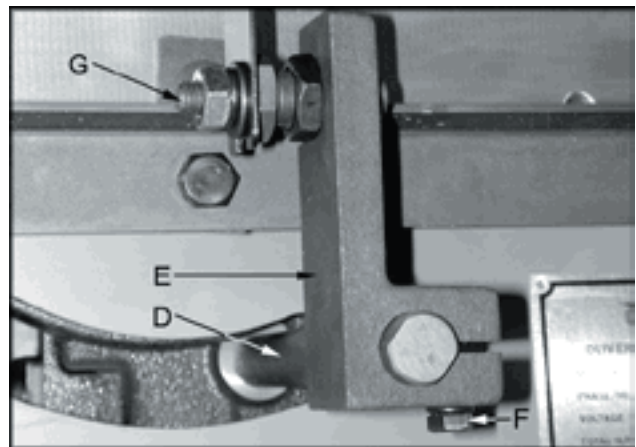

Figure 15
3. Thread blade guard shaft (D, Figure 15) into rear trunnion through opening at rear of saw. Use the flat detent at the end of shaft to tighten blade guard shaft.
4. Place bracket assembly (E, Figure 15) on to the shaft and thread a M8x35 hex head bolt and a M8 lock washer (F, Figure 15) into the bracket.
5. Thread the guard support assembly (G, Figure 15) into the bracket.